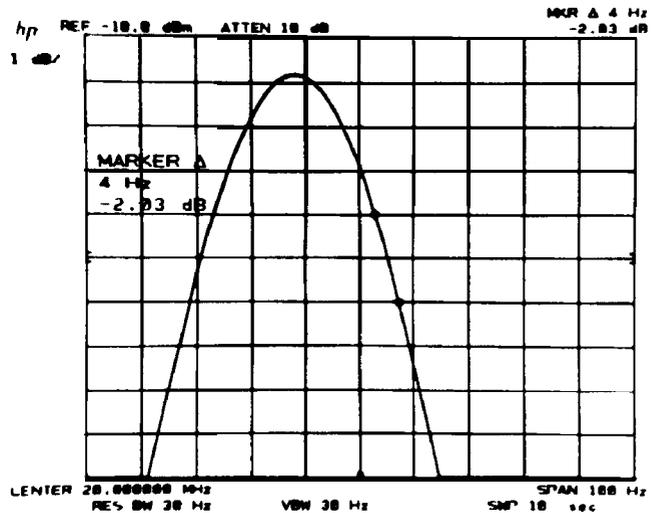

Figure 2-28. Bandwidth Filter Slope Measurement
7. Press MARKER **NORMAL**, and place marker 1 division above the center graticule line on the negative-going side of the trace. Press MARKER In] and set the movable marker 1 division below the center graticule line. See Figure 2-28.